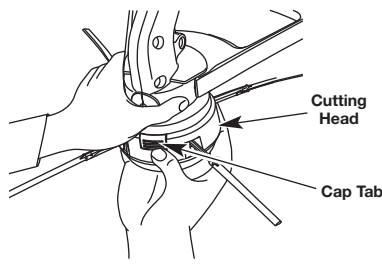

Fig. 13
1. Remove the cutting head cap by pressing in on both cap tabs and then pulling down on the cap. (Fig. 13)